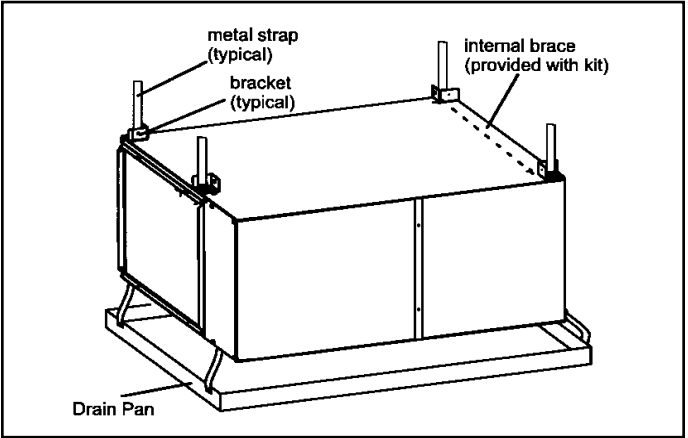
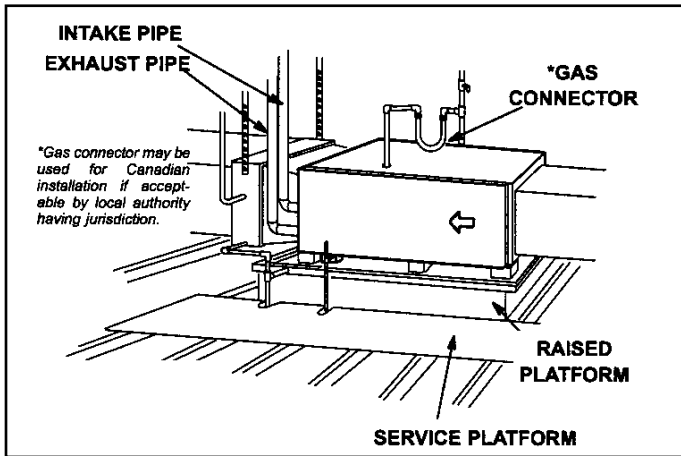

Figure 18. Typical Horizontal Application
Figure 19.
This furnace may be installed in either an attic or a crawl space. Either suspend the furnace from roof rafters or floor joists, as shown in Figure 18, or install the furnace on a platform, as shown in Figure 19. A horizontal suspension kit (51W10) may be ordered from your distributor or use equivalent.
2. Construct a raised wooden frame and cover frame with a plywood sheet. If unit is installed above finished space, fabricate an auxiliary drain pan to be installed under unit. Set unit in drain pan as shown in Figure 19. Leave 8 inches for service clearance below unit for condensate trap.